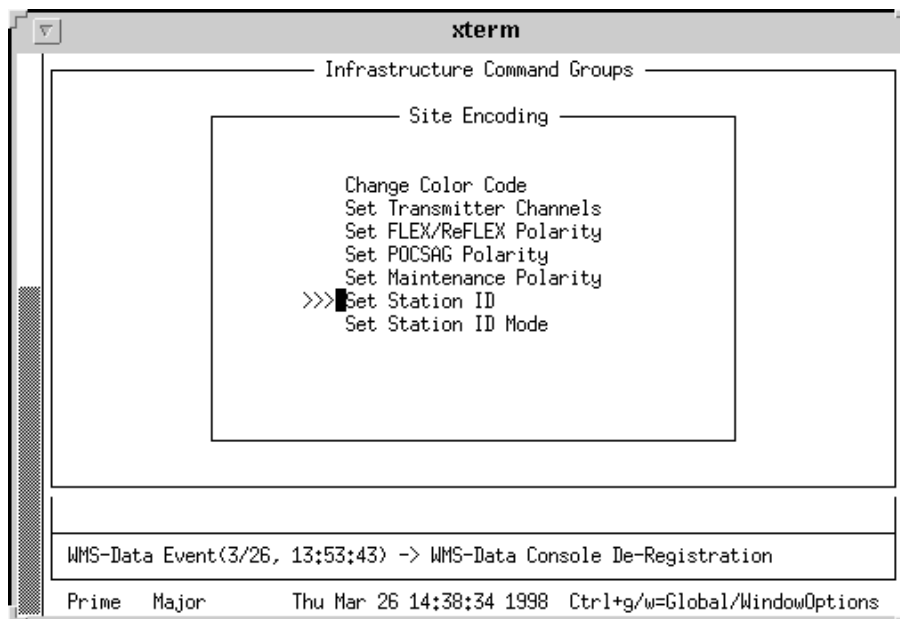

Figure 7-14: Infrastructure Command Groups—Set Station ID
1. From the Site Encoding screen, use the <tab> to position the cursor to the left of the listing Set Station ID and press: <Return> (see Figure 7-14).